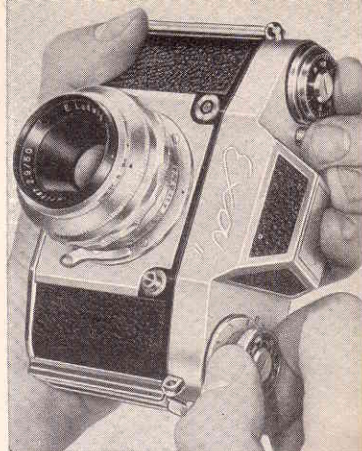

Fig. 33
Using the EXA take-up spool, it is possible that one or two exposures beyond the normal 36 can be made before the film ceases to transport, and it may be that the winding lever (11) will stop part-way along its travel. On reaching the end of the film, rewind by pulling out the rewind button (14) as far as its stop, taking the EXA in your left hand, pressing rewind release pin (10) and then, as shown in fig. 33, turning rewind button (14) in the direction of the arrow. When the rewinding movement suddenly becomes markedly easier, the film will have pulled off the take-up spool and be fully rewound into the cassette. If the wind-on lever stopped in mid-travel, it will now be possible to finish the wind-on, to enable the lever to be returned to its "rest" position. Open camera back (31) and remove cassette with exposed film from film chamber (22).